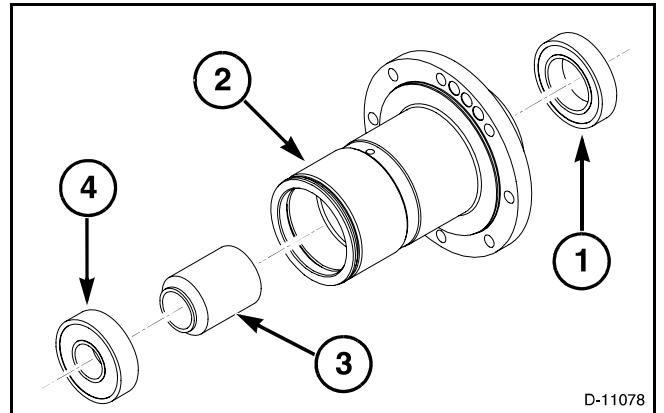

FIG. 272
FIG. 272: Turn the hub assembly over and locate the hub assembly on the jackshaft sheave support in the press. The jackshaft will support the inner and outer races of the inner bearing (1) and locates the spacer (3) in the correct location in the hub (2). Install the spacer (3) on the jackshaft sheave support. Press outer bearing (4) into the hub until the outer bearing is tight against the spacer.